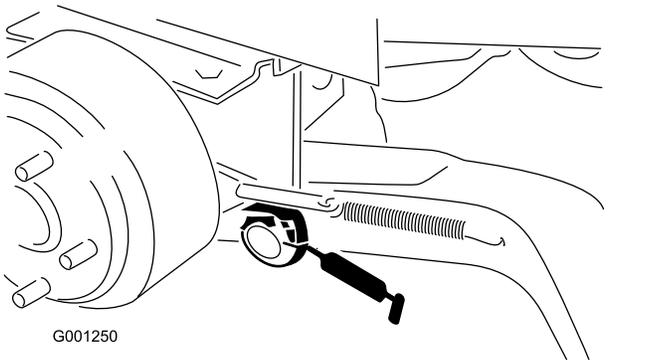

Figure 38
- Lift-arm pivot bushings (Figure 38)